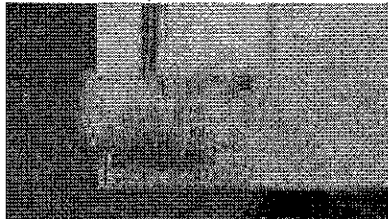

figure 2
- 2.4 Remove the white Fuzzy Weather Strip Pad from the hardware kit, two per panel. Peel the adhesive cover off of the back and place it on the notched interlock section (see figure 2 below, bottom shown top similar).